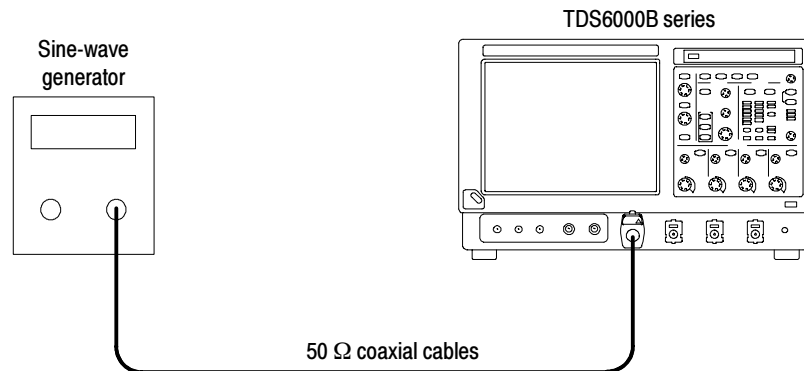

Figure 4-27: Initial test hookup
- a. *Hook Up the test-signal source (see Figure 4-27):*